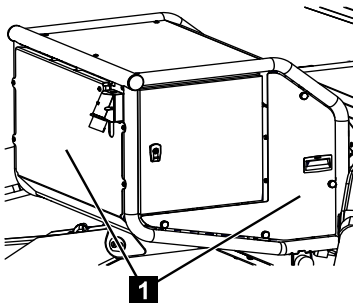

Fig. 204
4. Unscrew and remove the covers (Fig.204/1).